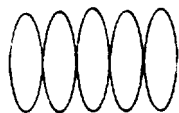

Figure 5-13. Zero beat pattern
- (6) Remove the digital voltmeter; remove from AN/GRM-114; reassemble metal shield to FM/AM Generator A1A24A3; reapply power to AN/GRM-114; set the FREQUENCY MHz thumbwheels to 120 051 0; set the RF LEVEL/BFO INJECTION control to -100 dB; set the HI LVL/NORM switch to $100 \mu\text{V}$; and connect the coaxial cable between the TRANS/RCVR jack and the spectrum analyzer input.
- (7) Check that the spectrum analyzer displays a 120.051 MHz signal at 60 ± 1 dB. If the spectrum analyzer display is not correct, adjust A1A24A3-R20 for a display of 120.051 MHz at 60 ± 1 dB.
- (8) Set the GEN/RCVR switch to RCVR; set the RF LEVEL/BFO INJECTION control to 1; set the SWEEP switch to 10 mS; and connect the coaxial cable between the ANT INPUT jack and the rf signal generator output jack.
- (9) Adjust the rf signal generator for a 120.05 MHz output with an output level of 100 microvolts.
- (10) Check that the oscilloscope display is as shown in figure 5-13, and the FREQ. ERROR indicates full scale deflection to the left. If the oscilloscope display and the FREQ. ERROR indication are not correct, adjust A1A24A3R21 for the proper indications.